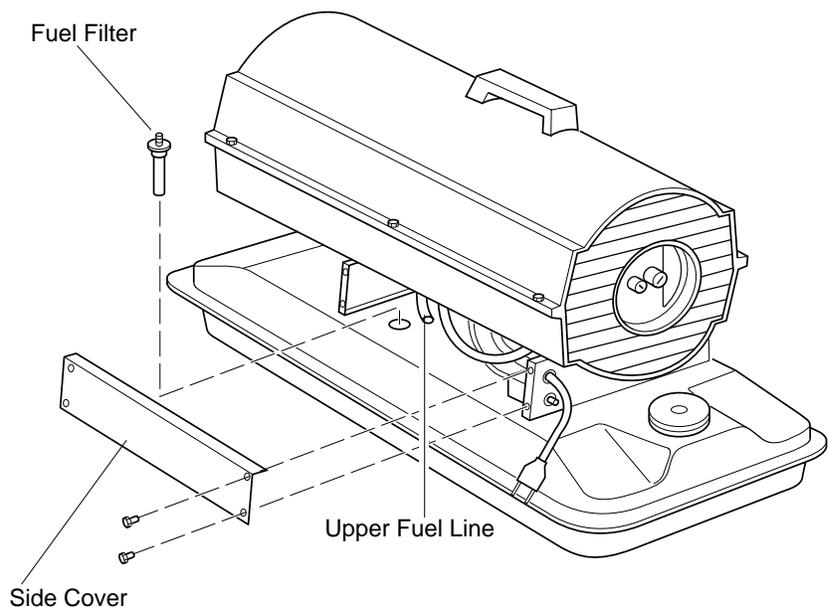
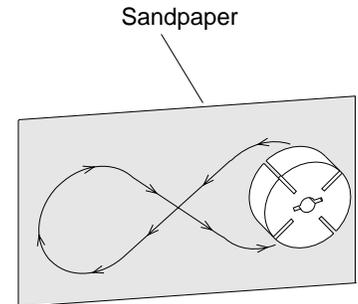

Figure 8 - Fuel Filter Removal
Figure 14 - Sanding Rotor
- 14. Place fine grade sandpaper (600 grit) on flat surface. Sand rotor lightly in “figure 8” motion four times (see Figure 14).